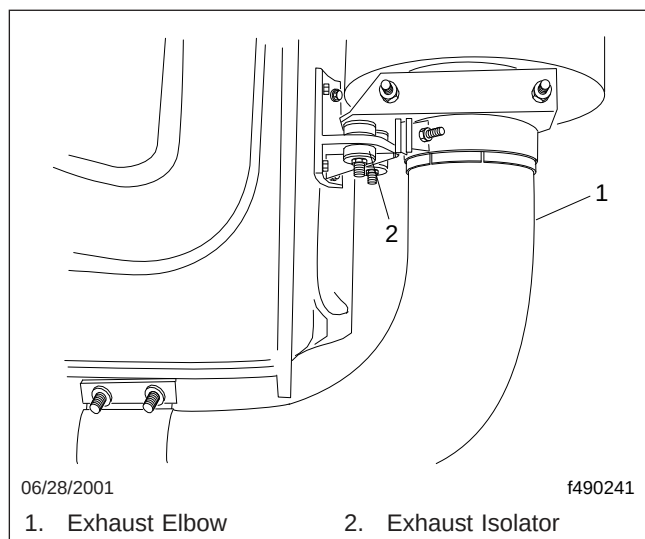

Fig. 7, Exhaust Isolator
- Check the isolator at the base and the top of the exhaust stack (see Fig. 7) for cracking, damage, and dry rot. Replace as needed.